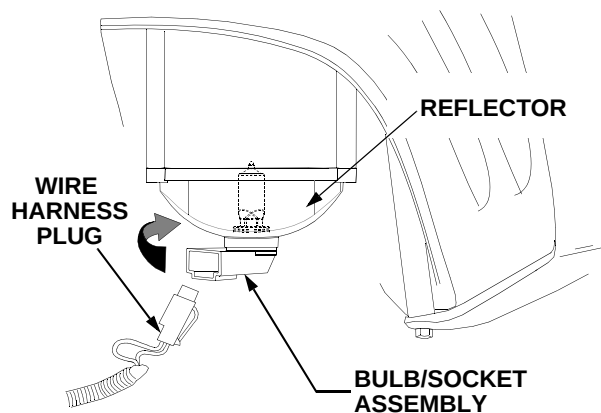

Figure 33
- Pull the wire harness plug from the bulb/socket assembly to unplug the wire harness. See Figure 33.